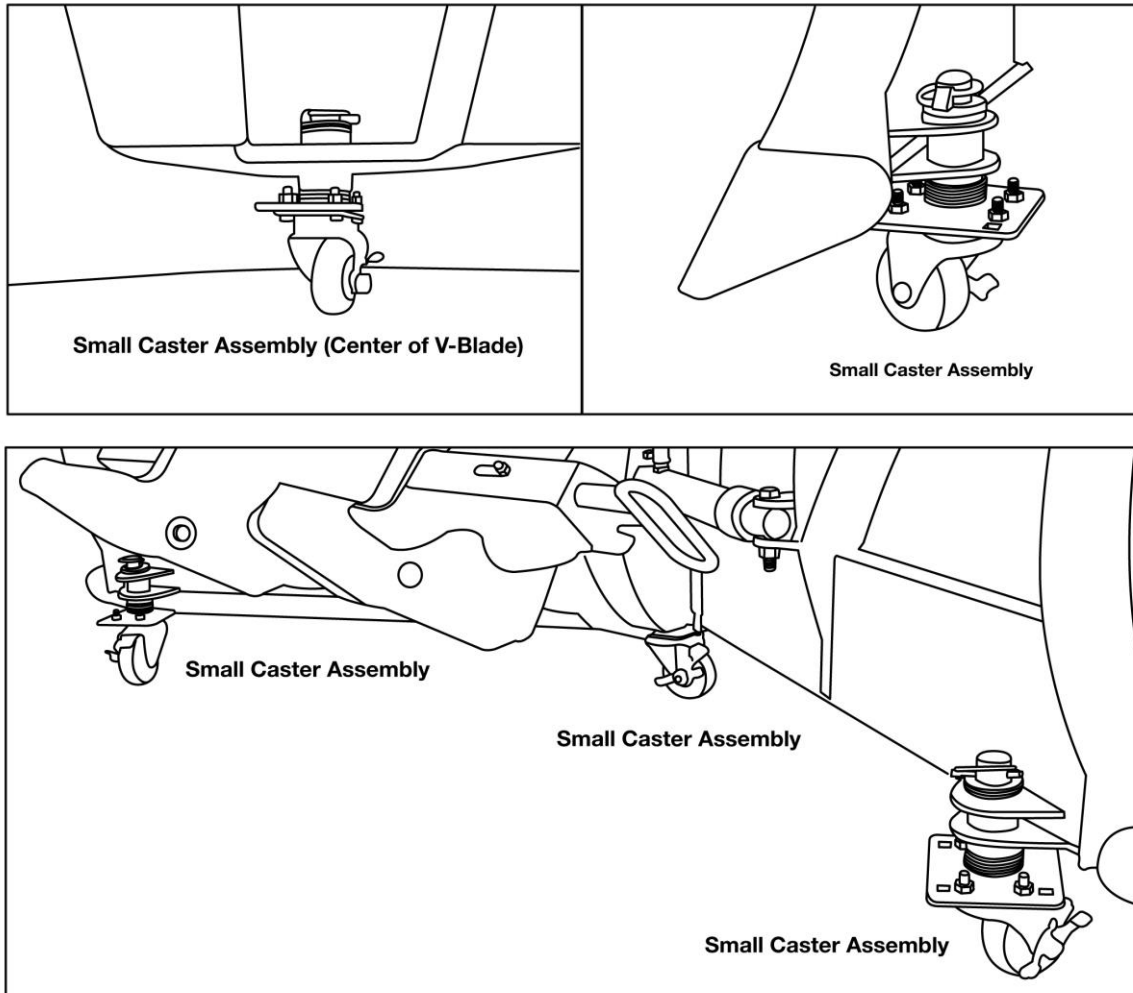

Figure 4. Caster Kit, UTV V-Blade Casters Shown Installed on a UTV Power V XT Blade
2. Remove any plow shoes and store. Install the three small 3" caster assemblies in both shoe holders and the center section as shown in Fig. 4 upper views (adjust washers as needed above/ below shoe holder and center section bushing). Be sure to lock them in with the quick pin.